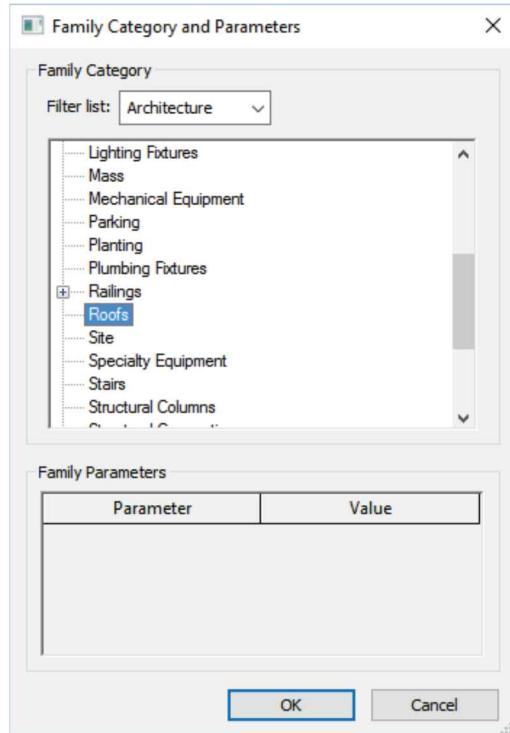

FIGURE 10-5.10 Family Category and Parameters dialog
29. Select **Roofs** from the *Family Category* list (Figure 10-5.10).